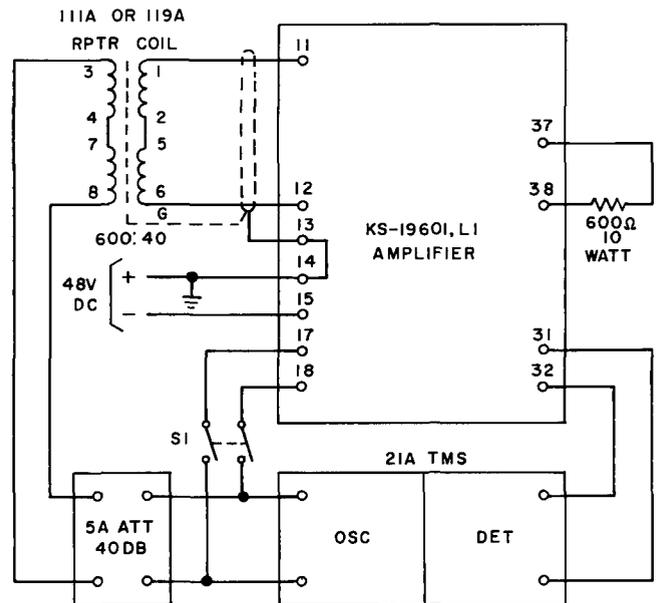

Fig. 7 — Test Setup for Measuring Sidetone Suppression of Low-Level Channel
5.01 The test setup for measuring the sidetone suppression of the amplifier is shown in Fig. 7. Chart VI gives the step procedure to be followed when making this test.
2	Connect circuit as shown in Fig. 7.
9	Reconnect circuit as shown in Fig. 7. (Do not change OSC output.) Close switch S1 and read the 21A TMS. Requirement: $-20 \text{ dbm} \pm 5 \text{ db}$.